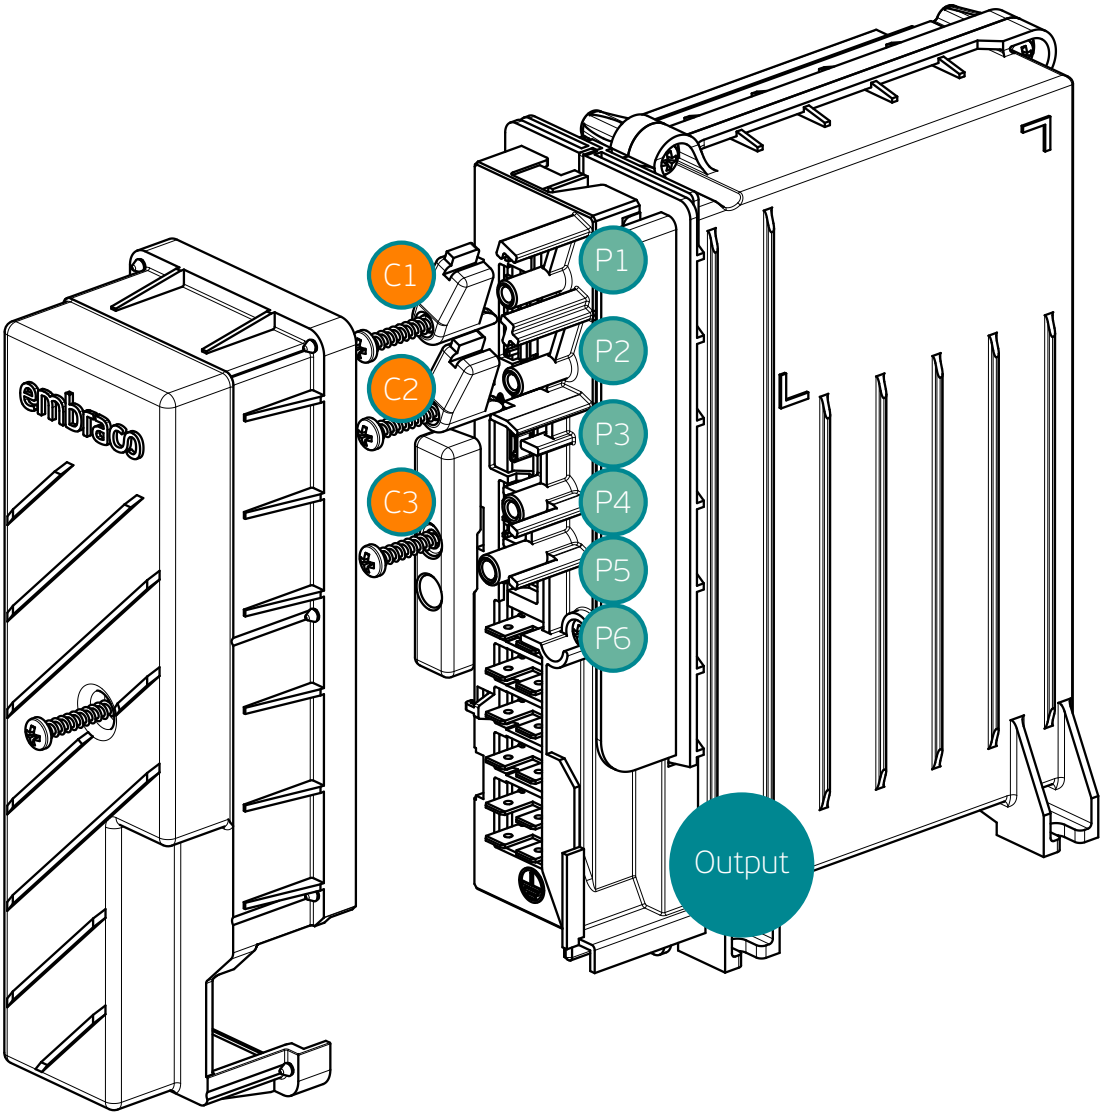

Figure 3.1: Cable paths and cord reliefs
The CF05D inverter is supplied only with compressor motor cable, which has your own cord relief. The compressor motor cable is already assembled in the inverter. The input power cord, grounding and communication cables are not provided by Embraco. As shown in Figure 3.1, the CF05D has 5 cable paths and 2 cord anchorages dedicated to retain the system cables.
2. Make the electrical connections and route the cables through the cable path (see Figure 3.1).
3. Route all the cables through the output (see Figure 3.1).
- The screws shown in Figure 3.1 must be fixed with torque of 1.0 Nm (± 0.2).